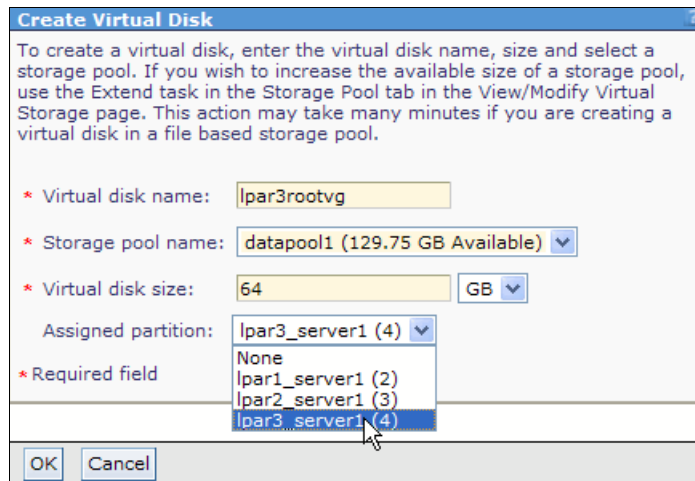

Figure 4-12 Create Virtual Disk: size and partition assignment
4. Enter the size of the virtual disk and select an assigned partition for the new disk from the drop-down list. Select **None** if you do not want to assign the new disk to a partition now. Click **OK** to create the virtual disk. as depicted in Figure 4-12.